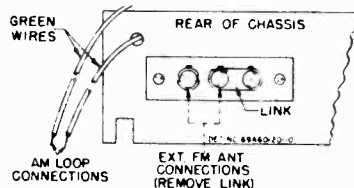

FIGURE 1.
No outside antenna or ground is normally required for standard broadcast (AM) reception, as a loop antenna is located inside the cabinet. Antenna connections are shown in Figure 1. In locations where additional pick-up is desired, an external antenna may be connected to the clip marked "EXT BC ANT" on the loop antenna.
An FM antenna, built into the power cord, eliminates the need for an external FM antenna when the receiver is used in normal FM service areas, such as are found in and for a few miles around metropolitan areas. In "fringe" or weak signal areas, improved FM reception can be obtained by using an outside FM antenna. The external antenna should be connected through a 300 ohm twin transmission line to the 1st & 2nd screws on the terminal strip on the chassis, as in Figure 1. The link between the 2nd & 3rd screws should be opened. Orient the antenna to obtain maximum volume of the FM stations.